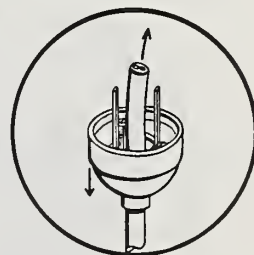

Fig. 2
2. Slip the plug back on the cord. (Fig 2.)